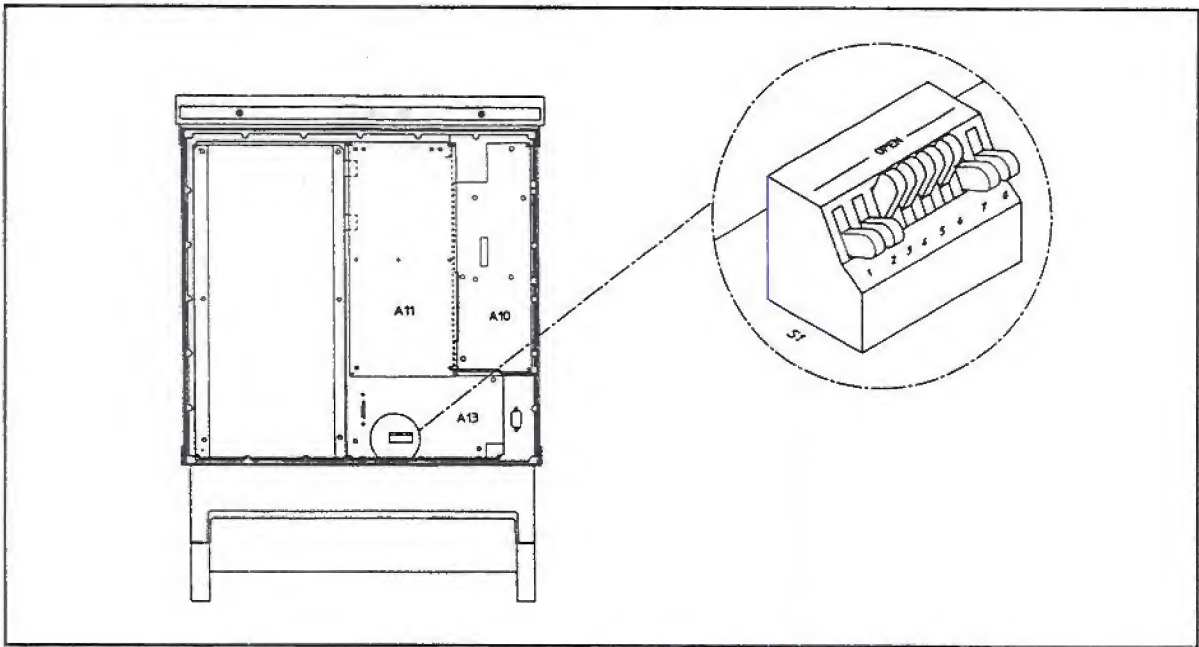

Figure 2-4. HP 8657B HP-IB Address Switch Location
- c. Refer to Figure 2-4. Locate the HP-IB address switch S1 on the A13 Microprocessor assembly.